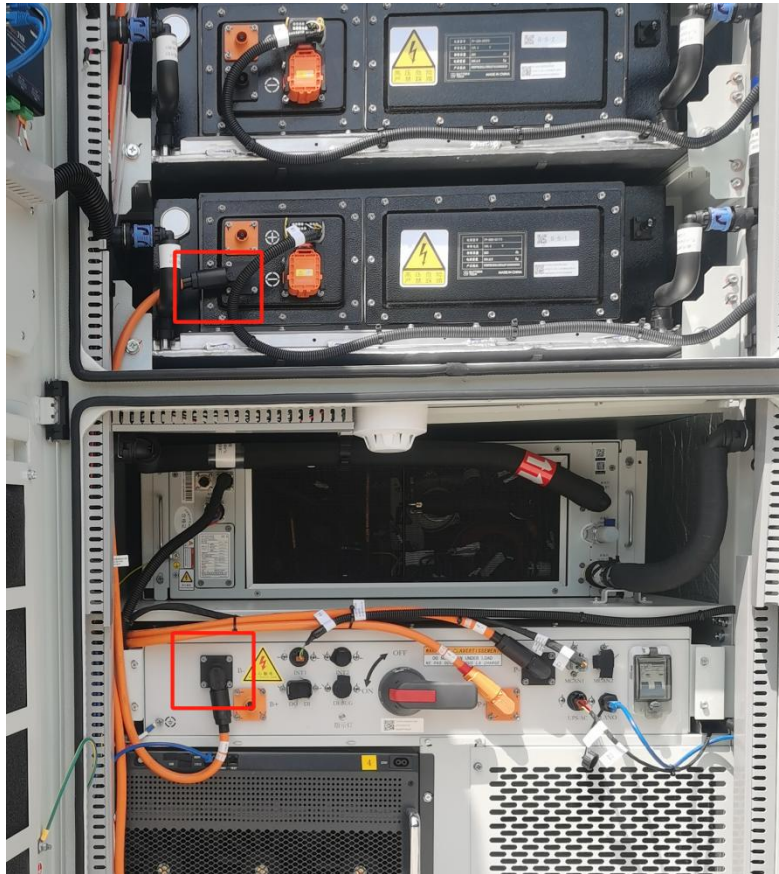

Figure 5.7 Diagram of Power Line Connections
Step 1: Connect the positive terminal of the high voltage box to the positive terminal of BAT1 as shown in Figure 5.7.